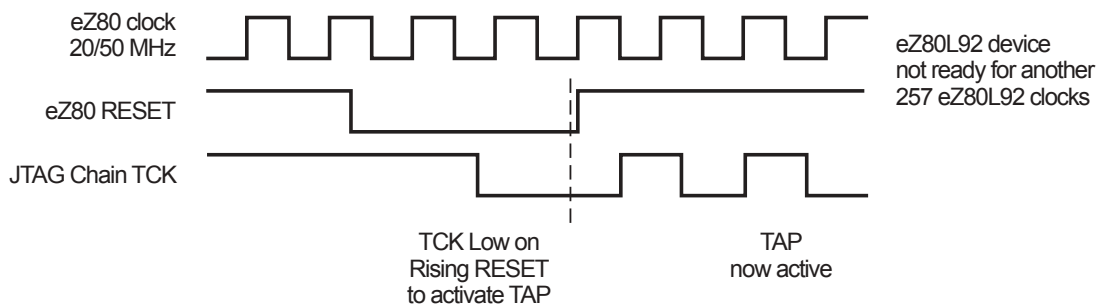

Figure 1. Reset Timing with the eZ80L92, eZ80F92, and eZ80F93 Devices
- Figure 1. Reset Timing with the eZ80L92, eZ80F92, and eZ80F93 Devices 3
Performing a device reset with TCK held Low is required for TAP operation on all eZ80[®] and eZ80Acclaim![™] devices (see Figure 1). Device reset, via the external RESET pin, is required on the eZ80L92, eZ80F92, and eZ80F93 devices; it is recommended on the eZ80F91.